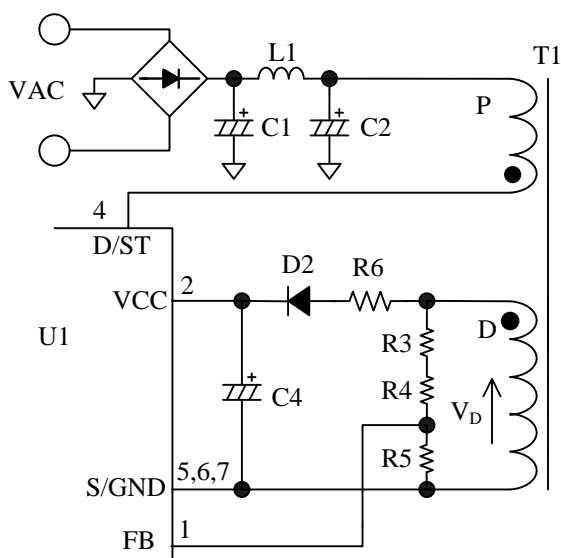
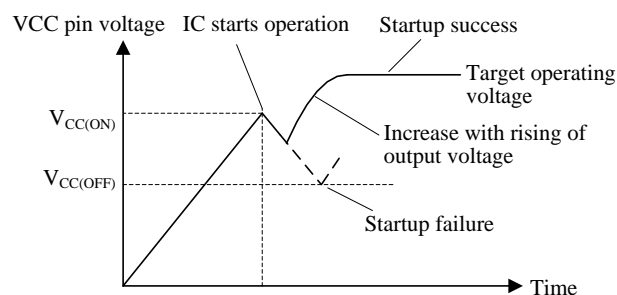

Figure 10-1 VCC pin peripheral circuit
Figure 10-3 VCC pin voltage during startup period
Figure 10-1 shows the VCC pin peripheral circuit.
Figure 10-3 shows VCC voltage behavior during the startup period. When VCC pin voltage increases to $V_{\text{CC(ON)}} = 15.0 \text{ V}$ at startup, the IC starts the operation. Then circuit current increases and VCC pin voltage decreases. Since the Operation Stop Voltage $V_{\text{CC(OFF)}} = 8.1 \text{ V}$ is low, the auxiliary winding voltage reaches to setting value before VCC pin voltage decreases to $V_{\text{CC(OFF)}}$. Thus control circuit continues the operation. The voltage from the auxiliary winding D in Figure 10-1 becomes a power source to the control circuit in operation. The approximate value of auxiliary winding voltage is about 12 V to 16 V, taking account of the winding turns of D winding so that VCC pin voltage satisfies Equation (2) within the specification of input and output voltage variation of power supply.
When V_{CC} pin voltage reaches to $V_{CC(OFF)}$ and a startup failure occurs as shown in Figure 10-3, increase the C4 value. Since the larger capacitance causes the longer startup time of IC, it is necessary to check and adjust the startup process based on actual operation in the application.